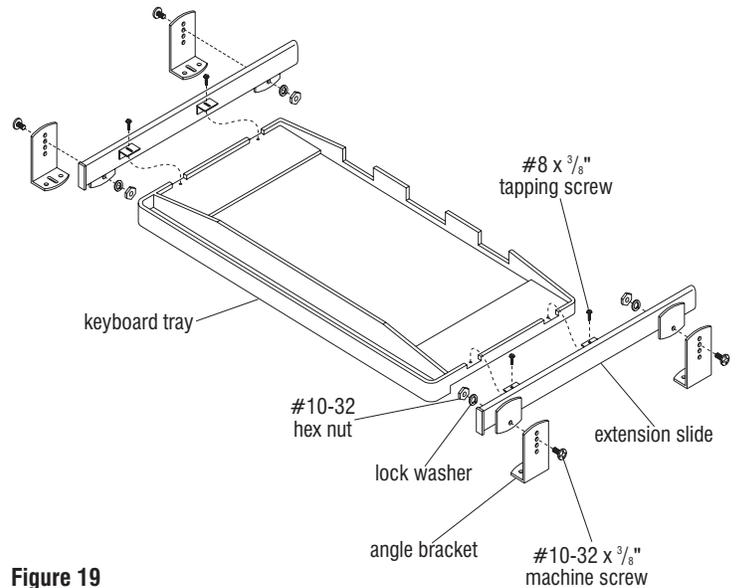

Figure 19
4. Put tapping screws through slots in extension slide tabs and screw into holes in keyboard tray. Do not tighten (Figure 19).
5. Press extension slide firmly against side of keyboard tray and tighten tapping screws (Figure 19).
7. Select position for angle bracket and place in position against extension slide. When using the hole shown in the diagram, there will be approximately 3³/₄" clearance from the bottom of the table/desk surface to the surface that the keyboard rest on. The keyboard surface may be moved 1/2" or 1" closer by using one of the other two available holes (Figure 19).
8. Insert machine screw through hole in angle bracket and bracket on extension slide. Slide lock washer over machine screw. Turn nut onto machine screw and tighten (Figure 19). Repeat for other three brackets.
3. Position extension slides so that tabs with slots are placed into cutouts on lower edge of keyboard tray (Figure 19).